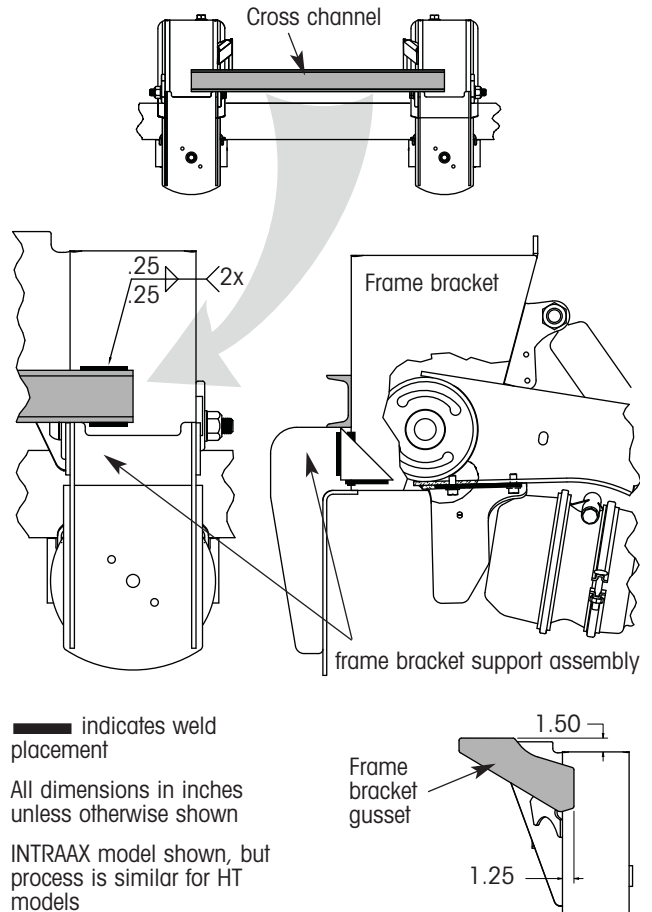

Figure 6. Cross channel installation details
1. Rest the cross channel on top of the frame bracket support assembly as shown in figure 6.
2. Weld the cross channel to the front surface of the frame bracket with $\frac{1}{4}$ -inch fillet welds as shown in figure 6.
4. Obtain new frame bracket gussets. Reorient and weld to the suspension as shown in figure 6.